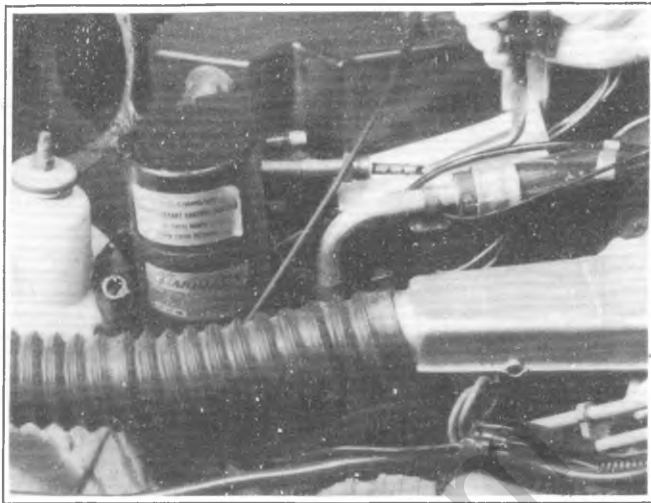

Fig. 1B-31--Expansion Tube (C-K and G Four-Season System)
3. Using needle-nose pliers, remove the expansion tube from the evaporator core inlet line (fig. 1B-37).